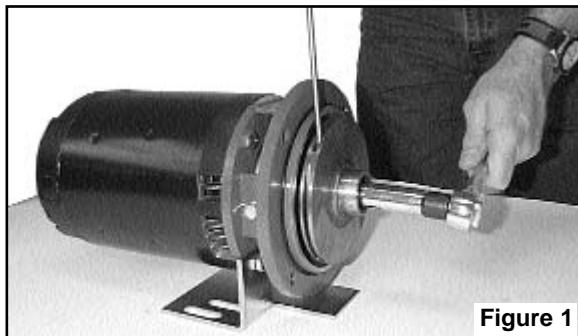

Figure 1
7. Insert a screwdriver in one of the impeller waterway passages and back off the impeller nut as shown in Figure 1.